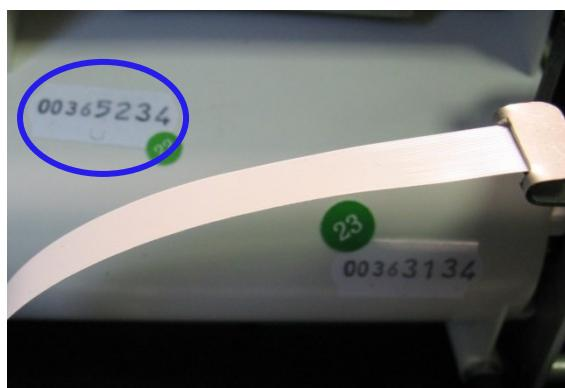

Fig. 32 Spare part serial number
- if a module has two numbers, the higher number must be entered (see Fig. 32);